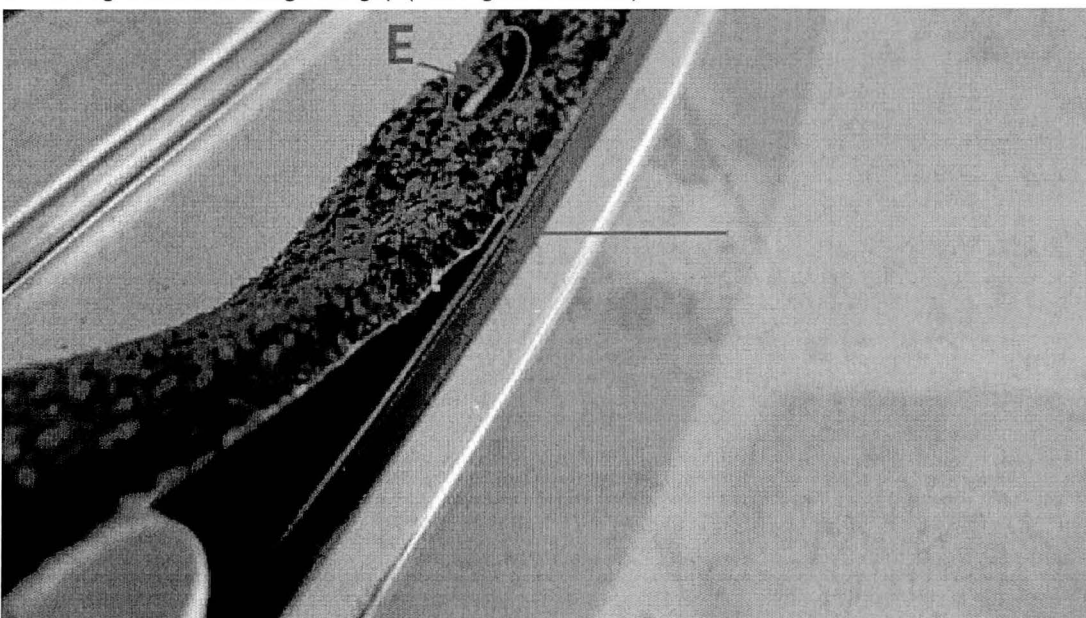

Figure 4
5. Fit the two side seals (D) part number 3W7854336. Align slots (E) cut into this seal with the thread insert in the brightware. Seal (D) should line up with the raised edge of the plastic structure (see arrow Figure 4)